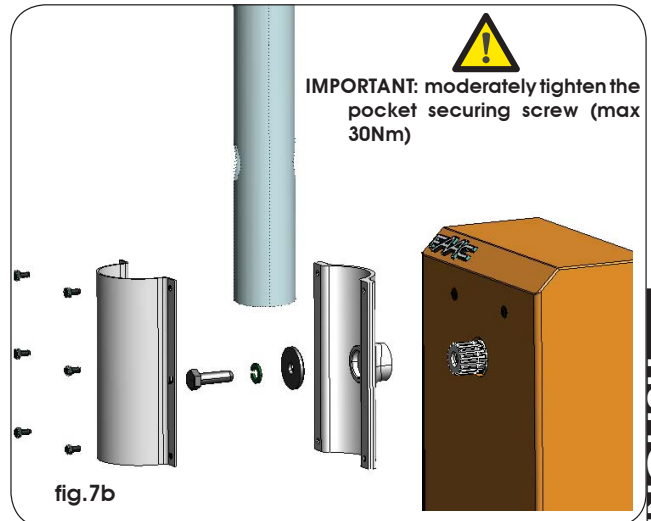
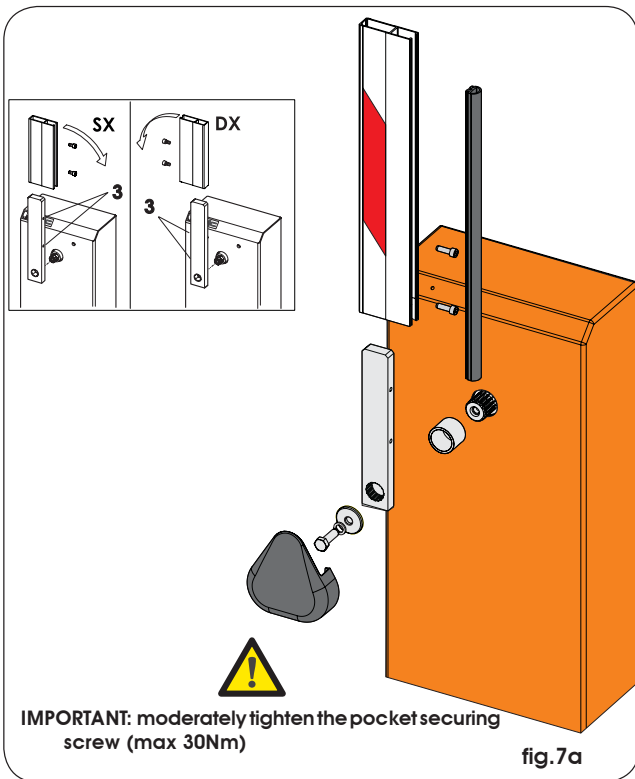

fig.7b
fig.7a
- 3) Assemble the bar as in fig.7a for the rectangular version, or as in fig.7b for the round version.